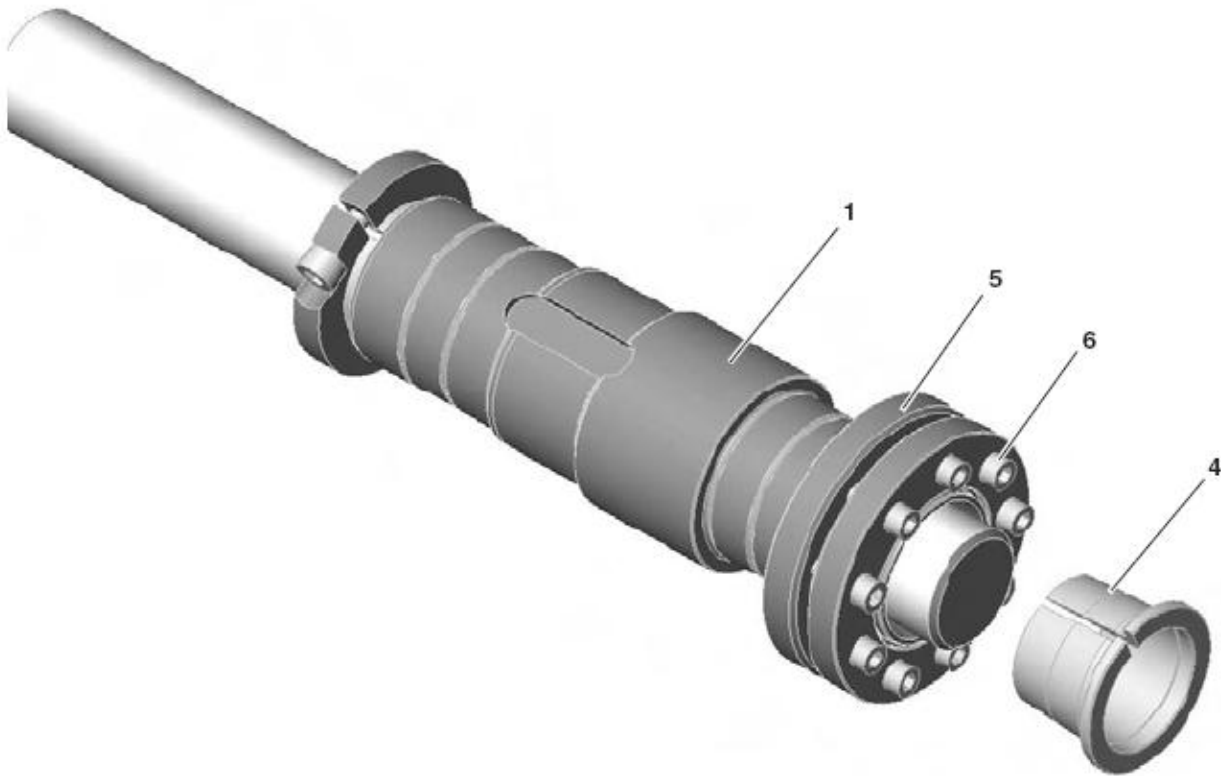

Figure 4-21. Installing the Gear Box
Refer to figure 4-21. Slide the gear box (1) on the machine shaft until it stops against the support bushing.